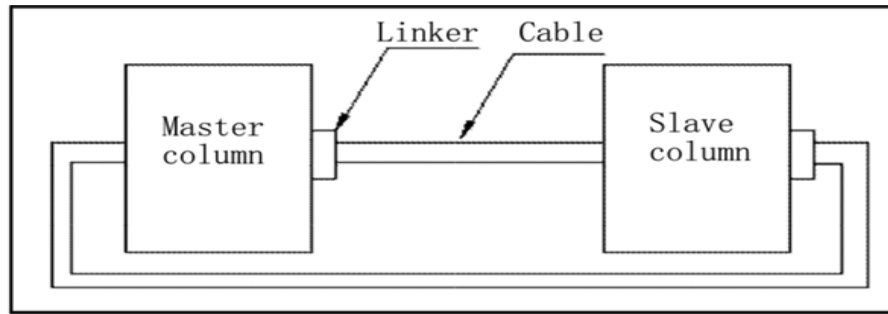
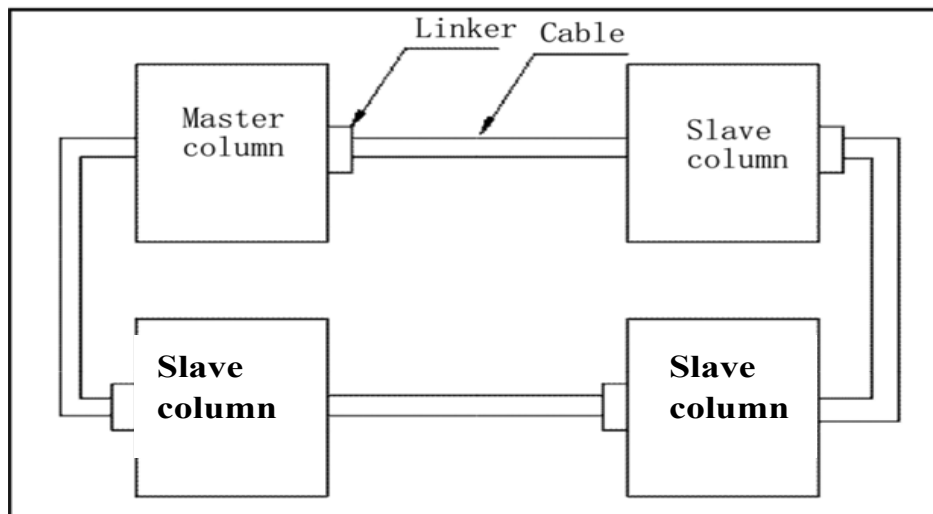

Fig.9
Fig.10
Note: Before operating, you should ensure the cables have been connected well according to the Fig.9 & Fig.10. Relevantly, you should ensure the power is cut off before taking down the cables.
(1) “PAIR” mode (see Fig.9)
(2) “FOUR” mode (see Fig.10)